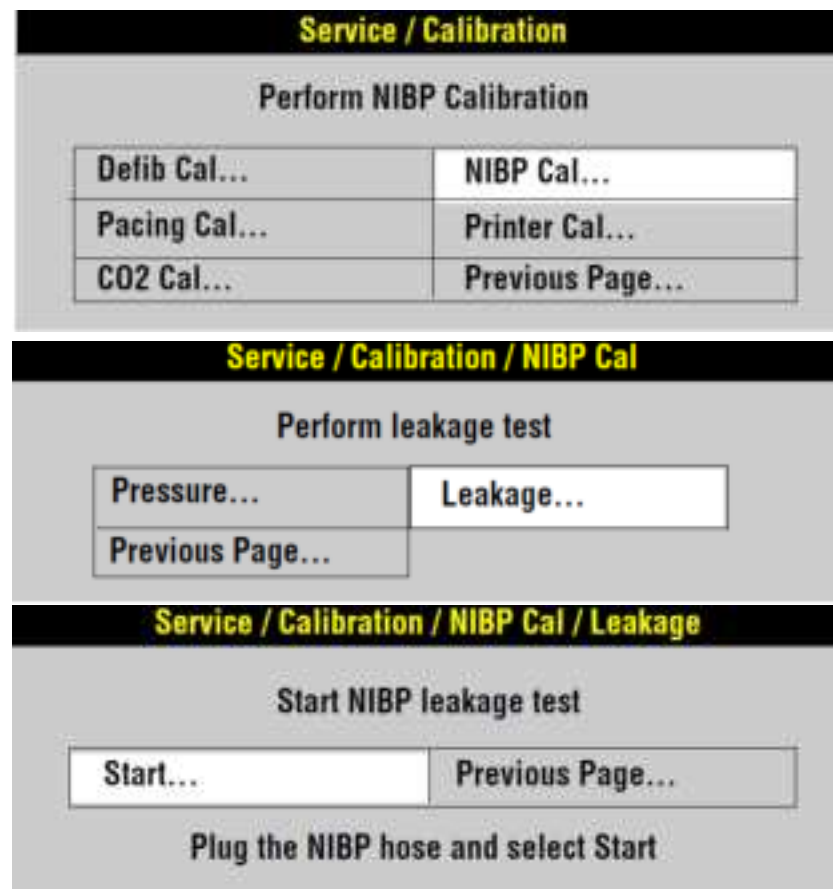

Figure 1.23—NIBP leakage menus
2. Select NIBP CAL in the Service/Calibration submenu as shown in Figure 1.23.